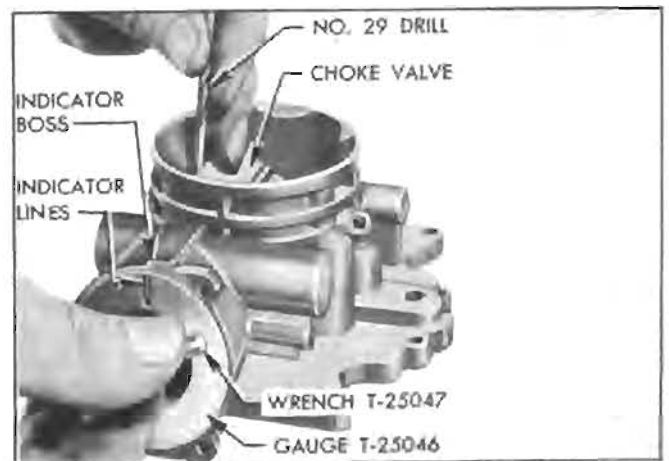

Figure 3-74—Stromberg Choke Thermostat Setting
18. Install thermostat and cover assembly with washers and screws. Rotate cover in direction of arrow until choke valve just closes then align the "V" punch mark on cover with end of boss on choke housing and tighten screws. **NOTE:** *The correct thermostat and cover assembly has the figure "23" stamped on cover adjacent to "V" mark. Do not use a part with any other number.* See figure 3-74.